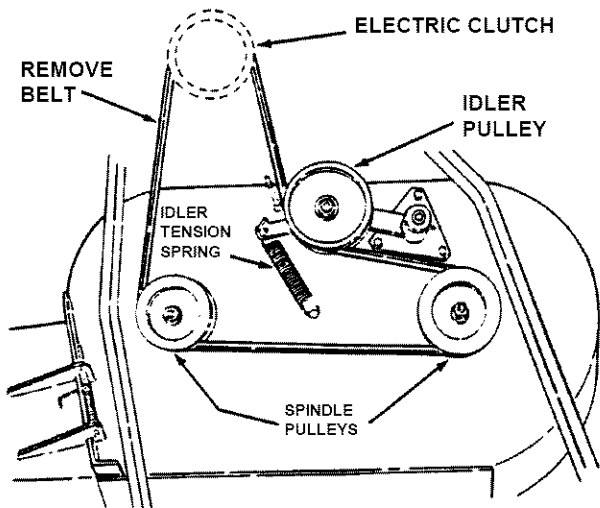

FIGURE 4.6
4. Remove old belt from Spindle Pulleys and Electric Clutch Pulley. See Figure 4.6.
2. Route new belt around Spindle Pulleys as shown in Figure 4.6.